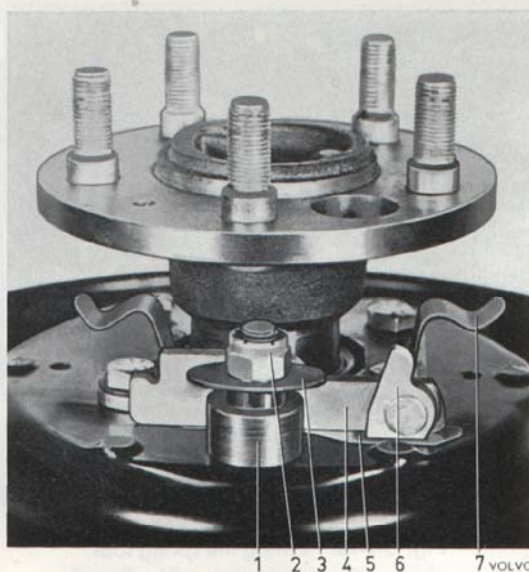

Fig. 5-19. Brake parts
2. Coat the 6 guide lips on the backing plates as well as the lever joint and adjusting screw with grease. Check that the lever and anchor bolt parts are correctly fitted, see Fig. 5-19.